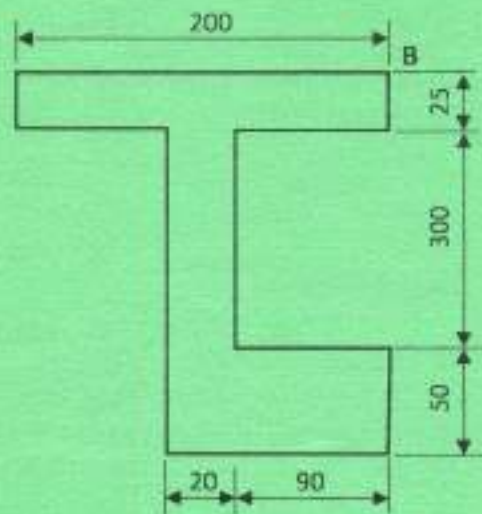

Fig. 1
- (b) For the section shown in figure 1, determine: